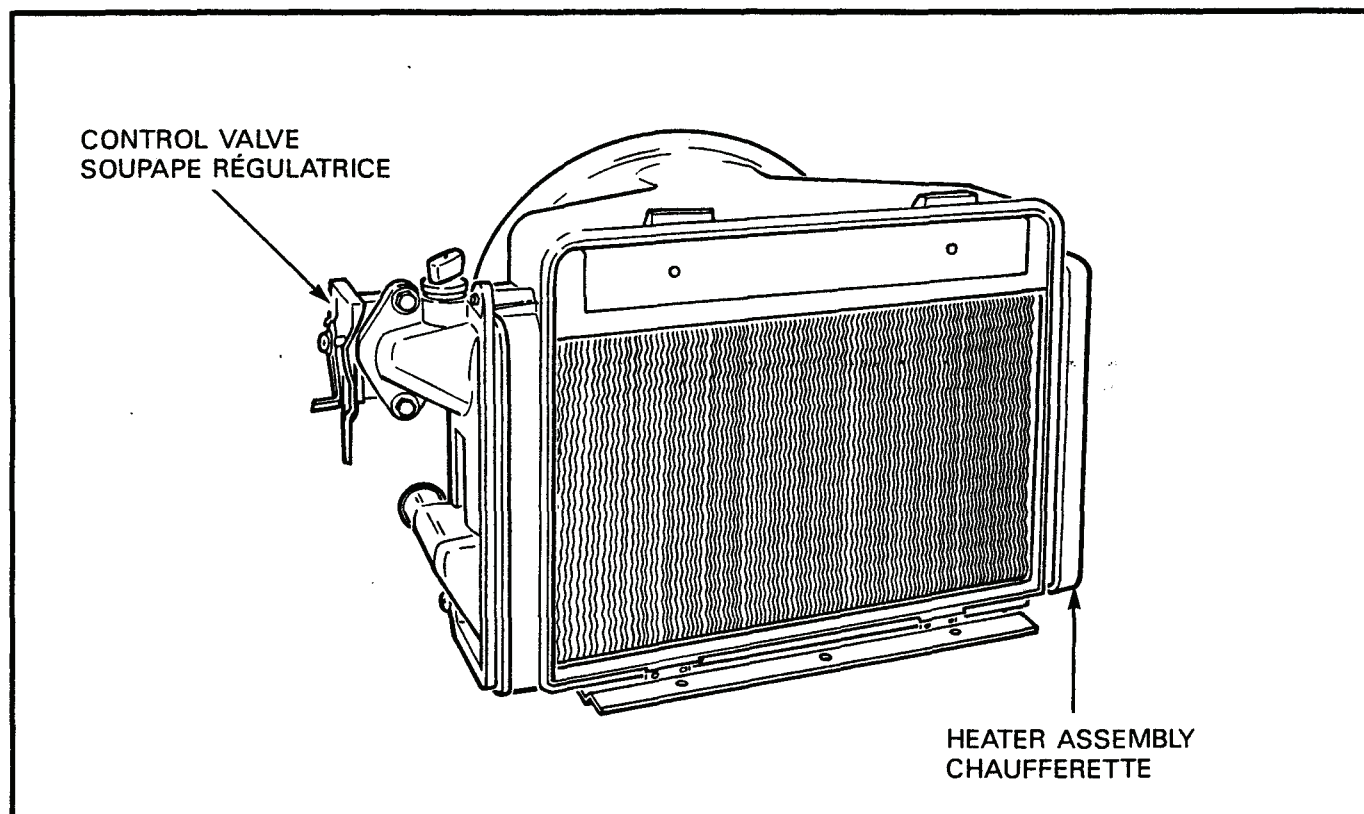

Figure 2-3-2 Heater Assembly Control Valve
- f. Remove the control valve from the heater assembly by removing the two bolts, see Figure 2-3-2.
- f. Enlever la soupape régulatrice de la chaufferette en enlevant les deux boulons, voir figure 2-3-2.